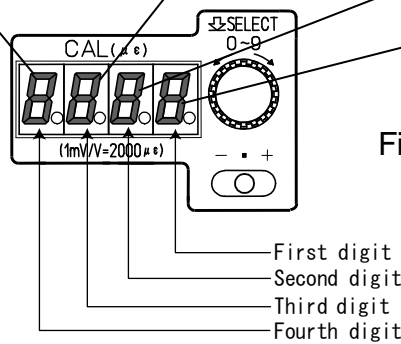

Fig.2-3 Calibration value (CAL)
The indicated value is calculated value based on input. The value can be set from $1\mu\epsilon$ to $9999\mu\epsilon$ by a step of $1\mu\epsilon$ ($=10^{-6}$). Values should be set for each digit (Fig.2-3). Pressing calibration value setting knob ⑫ (Fig.2-4) turns on the fourth digit of calibration value LED ⑬. Turning the switch changes the value on ⑬. Even the indication is blinking, the setting is being made.